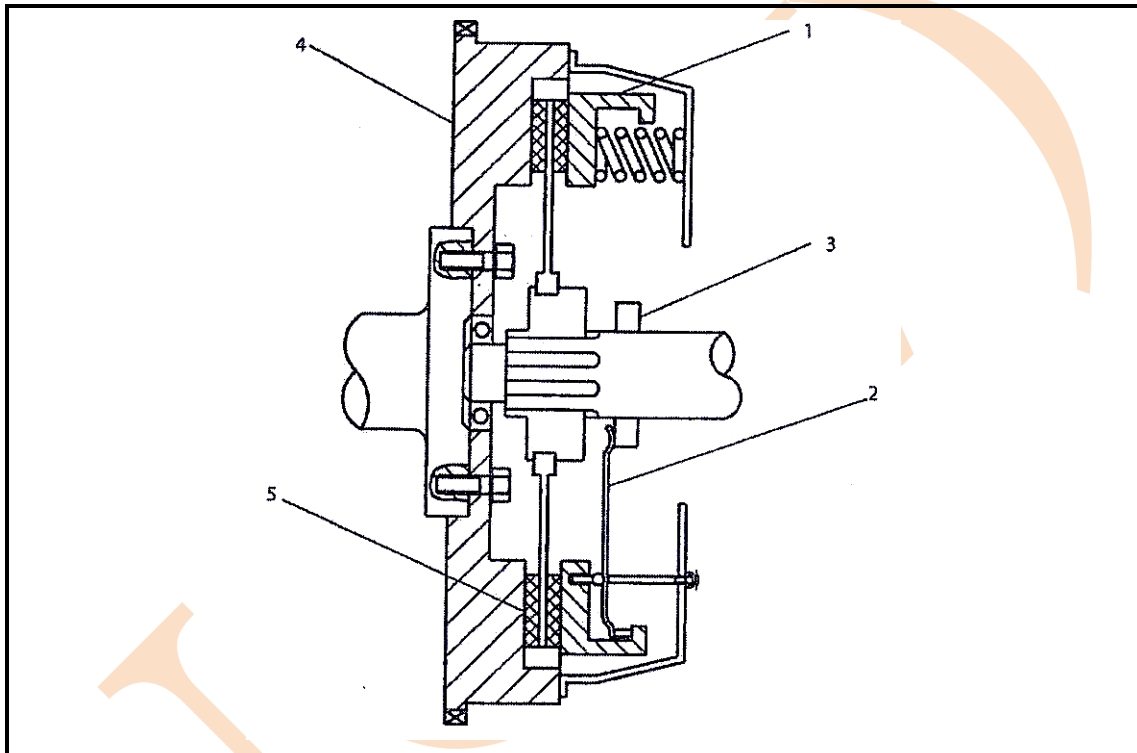

FIGURE 1
- 3.3 FIGURE 1 below shows a sectional view of a single-disc clutch assembly.